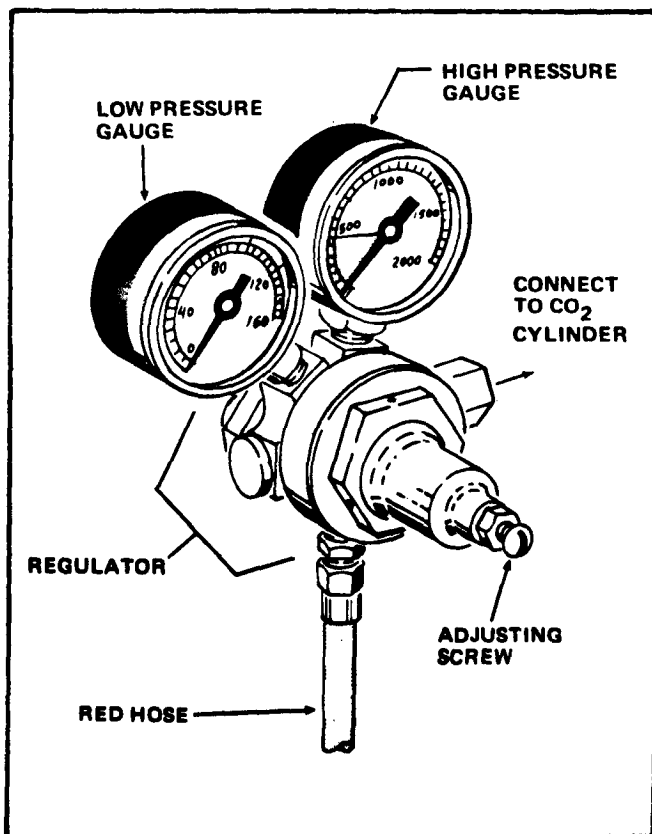

FIGURE 11
- c. Attach the CO₂ Regulator to the CO₂ Cylinder. See Figure 11. Be sure fitting is tight.
- f. Observe the High and Low Pressure Gauges. See Figure 11. The Low Pressure Gauge should indicate 4.2 kg/cm² (60 psi). The High Pressure Gauge should indicate pressure in excess of 35.15 kg/cm² (500 psi).